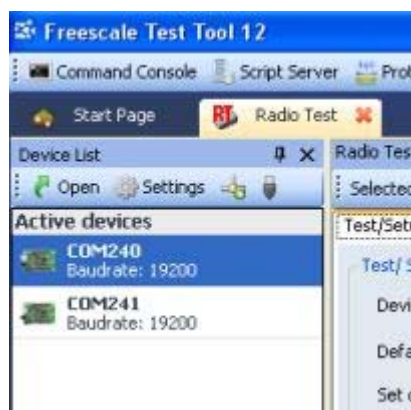

Figure 7-2. Device List Window
2. Select a device (double-click one of the COM ports) from the “Device List” window Figure 7-2. If a device has not been added see Section 2.3.1, “Configuring Serial Ports” and perform the steps shown there.